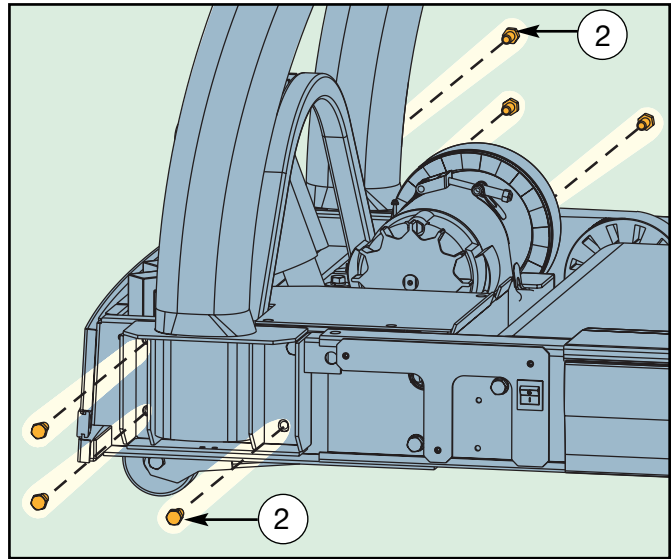

Figure 6
- B. Using a 9/16" socket wrench with a 4" extension, attach the uprights with six of the 3-8-16 x 5-8 hex head whiz-lock screws. **NOTE:** Do not securely tighten the screws until step 7C. See Figure 6.